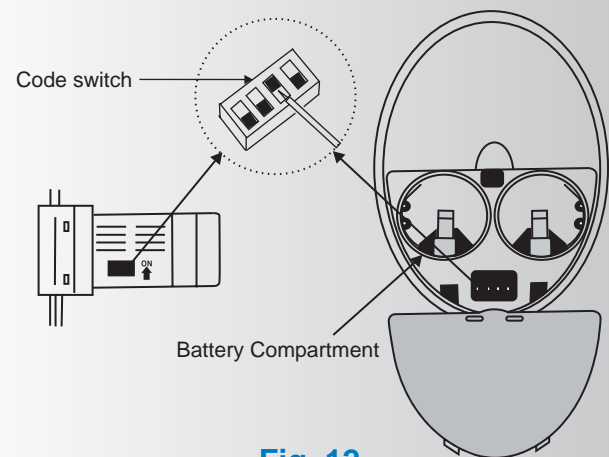

Fig. 12
**NOTE:** The CoolTouch™ Control System is equipped with 16 code combinations to prevent possible interference from or to other remote units. The frequency switches on your receiver and transmitter have been preset at the factory. Please recheck to make sure the switches on the transmitter and receiver are set to the same position, any combination of settings will operate the fan as long as the transmitter and receiver are set to the same position. (Fig. 12)